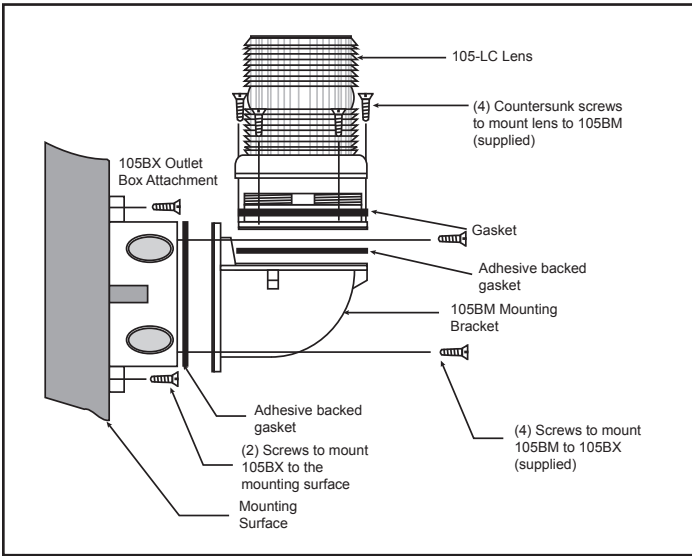

Figure 1. Mounting Cat. No. 105BM Mounting Bracket
While in most cases, the added layer of safety gained by operating a multi-status indicator with XTRA-SAFE Technology is desirable, some applications may not require differentiation in flash rates. In other applications, changes do not correspond to escalating levels of urgency. The adaptive design of the new Chameleon 105 XBRI allows the product to be adapted to accommodate these requirements by configuring the dipswitches as shown in Figure 1 (Applications WITHOUT a separate PLC or Controller - XTRA-SAFE Technology Disabled). With XTRA-SAFE Disabled, when red or amber, the unit pulses at a rate of 65 flashes per minute. When Chameleon multi-status indicators are turned green or blue and no other colors are energized, the Chameleon devices remain "steady on" and do not flash.
The Chameleon multi-status indicators can also be used in applications where they will be controlled "externally" using a Programmable Logic Controller (PLC) or other such external controller. When externally controlled by a PLC, activation of colors and flash-rate are fully customizable, and can be programmatically determined. In applications, where multiple colors are activated simultaneously, the lights operate on a priority with red highest, amber second and blue or green, the lowest. Refer to Figure 1 (Applications WITH a separate PLC or Controller). Wire color corresponds with each indicated color.
**NOTE:** When mounting using the Cat. No. 105BM mounting bracket, the Cat. No. 105BX outlet box attachment must also be used as shown in Figure 1.
- b. **Cat. No. 105BM:** Using the four supplied screws, secure the mounting bracket to Cat. No. 105BX outlet box attachment as shown in Figure 1. Attach the adhesive backed gasket to the top of the 105BM mounting bracket, being careful to line up the holes in the gasket with the mounting holes in the outlet box. Refer to Figure 1.
4. Mount 105XBRI Series as follows. Unscrew the gasketed base from the lens assembly as shown in Figures 1 and 2 and remove the clear gasket from around the base.
- a. Unscrew the lens from the bottom of base (Figures 1 and 2) and remove lens.
1. Unscrew the lens from the bottom of base (Figures 1 and 2) and remove lens.